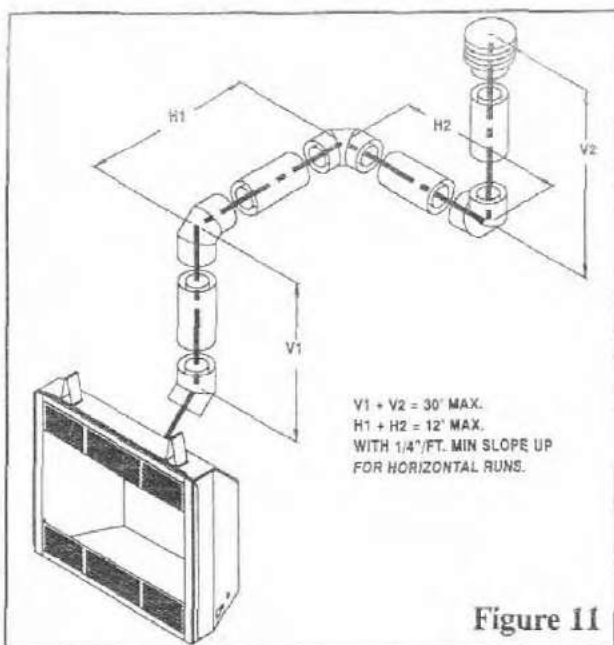

Figure 11
The maximum possible number of elbows used for vertical and horizontal installation must not exceed three (3) 90° and one (1) 45° elbows. This configuration permits up to 30' vertical rise with a maximum 12' horizontal run. Figure 11 illustrates an example of this configuration.